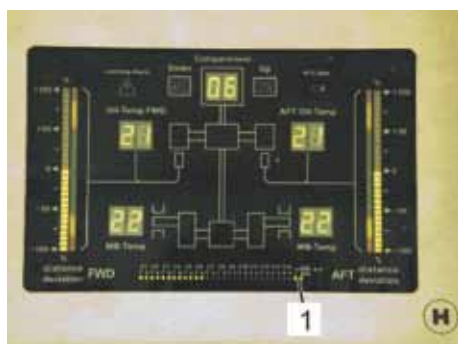

Fig. 93: Alarm indication on Indication unit
- Ä An alarm should be indicated on the sensor cap (Fig. 92/2) and on the Indication unit (Fig. 93/1) within the next ten seconds.